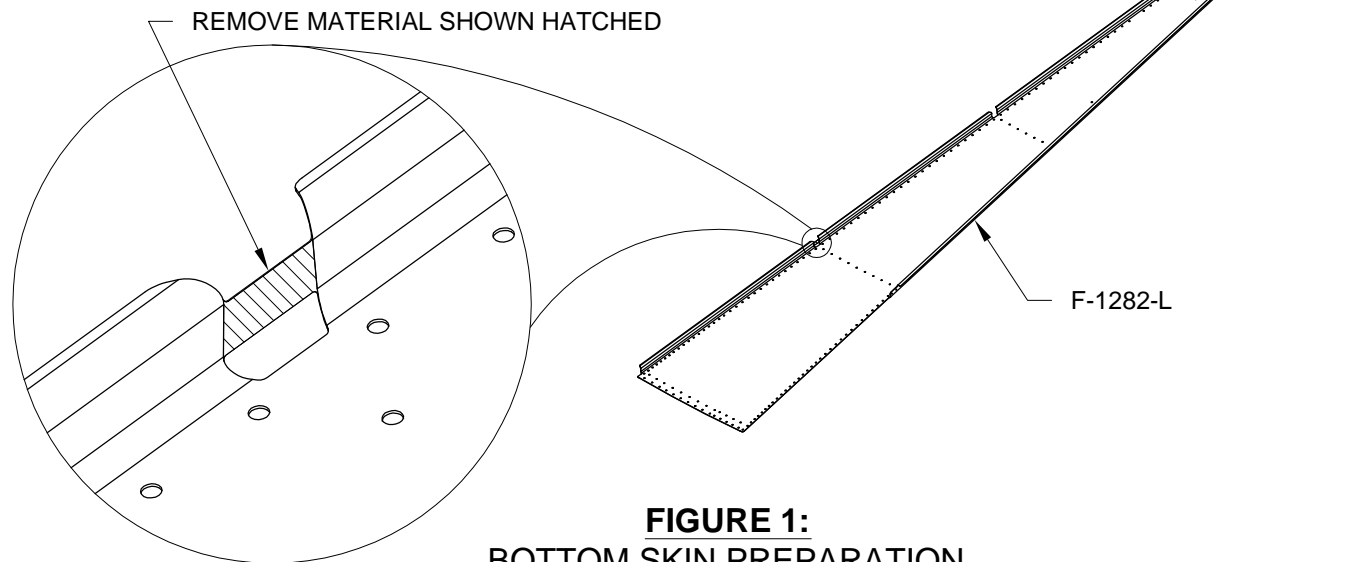

FIGURE 1:
Step 2: Trim the called out material from the F-1282-L Bottom Left Skin as shown in Figure 1.